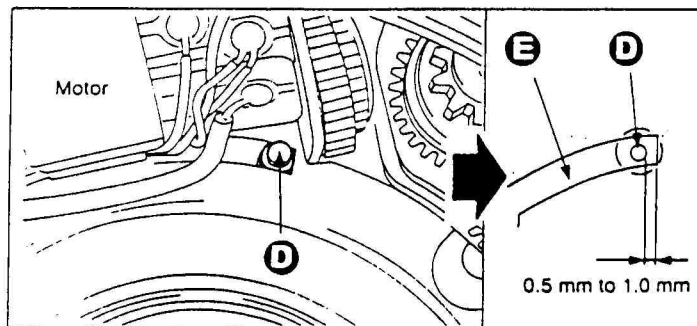

Fig. 2
2. The clearance between the pin (D) and the shutter speed switchover disk (E) shall be 0.5 mm to 1.0 mm. (See Fig. 2.)